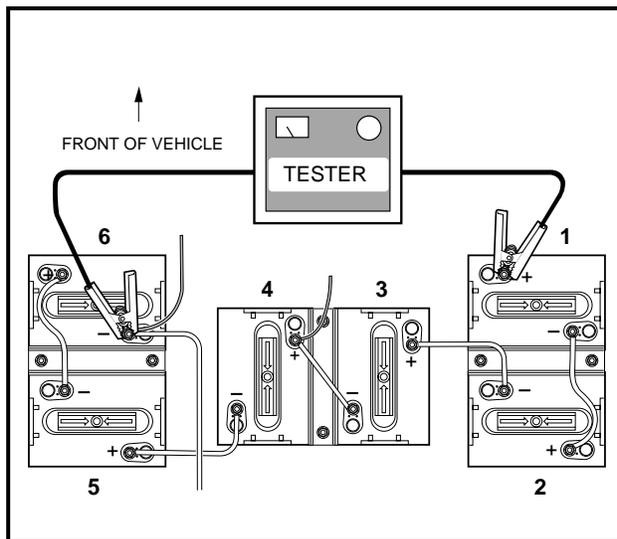

Figure 13-9 Discharge Test
2. Connect the tester leads to the positive (+) post of battery No.1 and negative (-) post of battery No. 6 (Figure 13-9, Page 13-11).